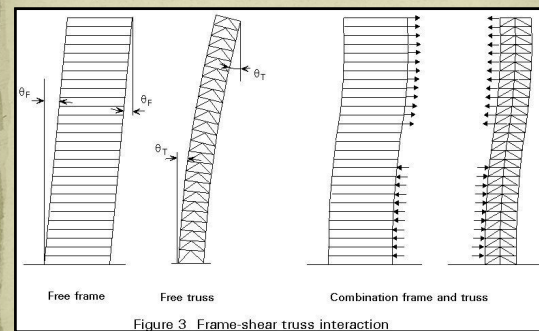

Figure 3 Frame-shear truss interaction
- ❖ These trusses combined with perimeter shear frames produce a Shear Truss and Frame System (Figure 3).
- ❖ The combination of the Shear Frame and vertical braces produces interaction of two modes of behavior, that of a Shear Frame and a Cantilever (Figure 3).